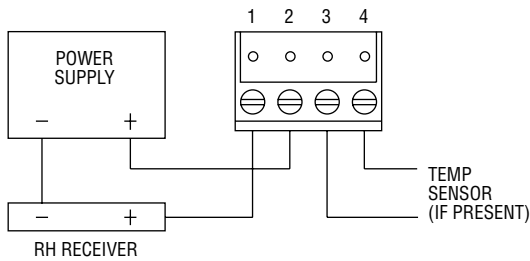
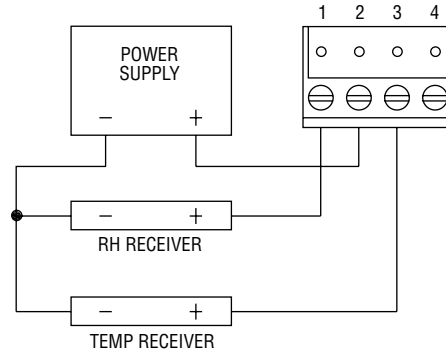

Figure 1
Figure 2
5. Proceed with wiring according to Figure 1.
Use maximum 18 AWG wire for wiring terminals. Refer to Figure 1 or Figure 2 for wiring information. Terminal blocks are removable for ease of wiring.
4-20 mA output units may be powered with a 10-35 VDC supply. (Wire as shown in Figure 1).
Dual 4-20 mA output units may be powered with a 10-35 VDC supply. The following describes the proper wiring of these transmitters: The model RHP transmitter with dual 4-20 mA output is designed as a two-wire 4-20 mA device with two channels. The channels are common on the positive side of the current loop. Sensor excitation power is derived from the RH channel, so power must always be applied to that channel. If the temperature channel is not used, it can be left disconnected. Wire as shown in Figure 2.